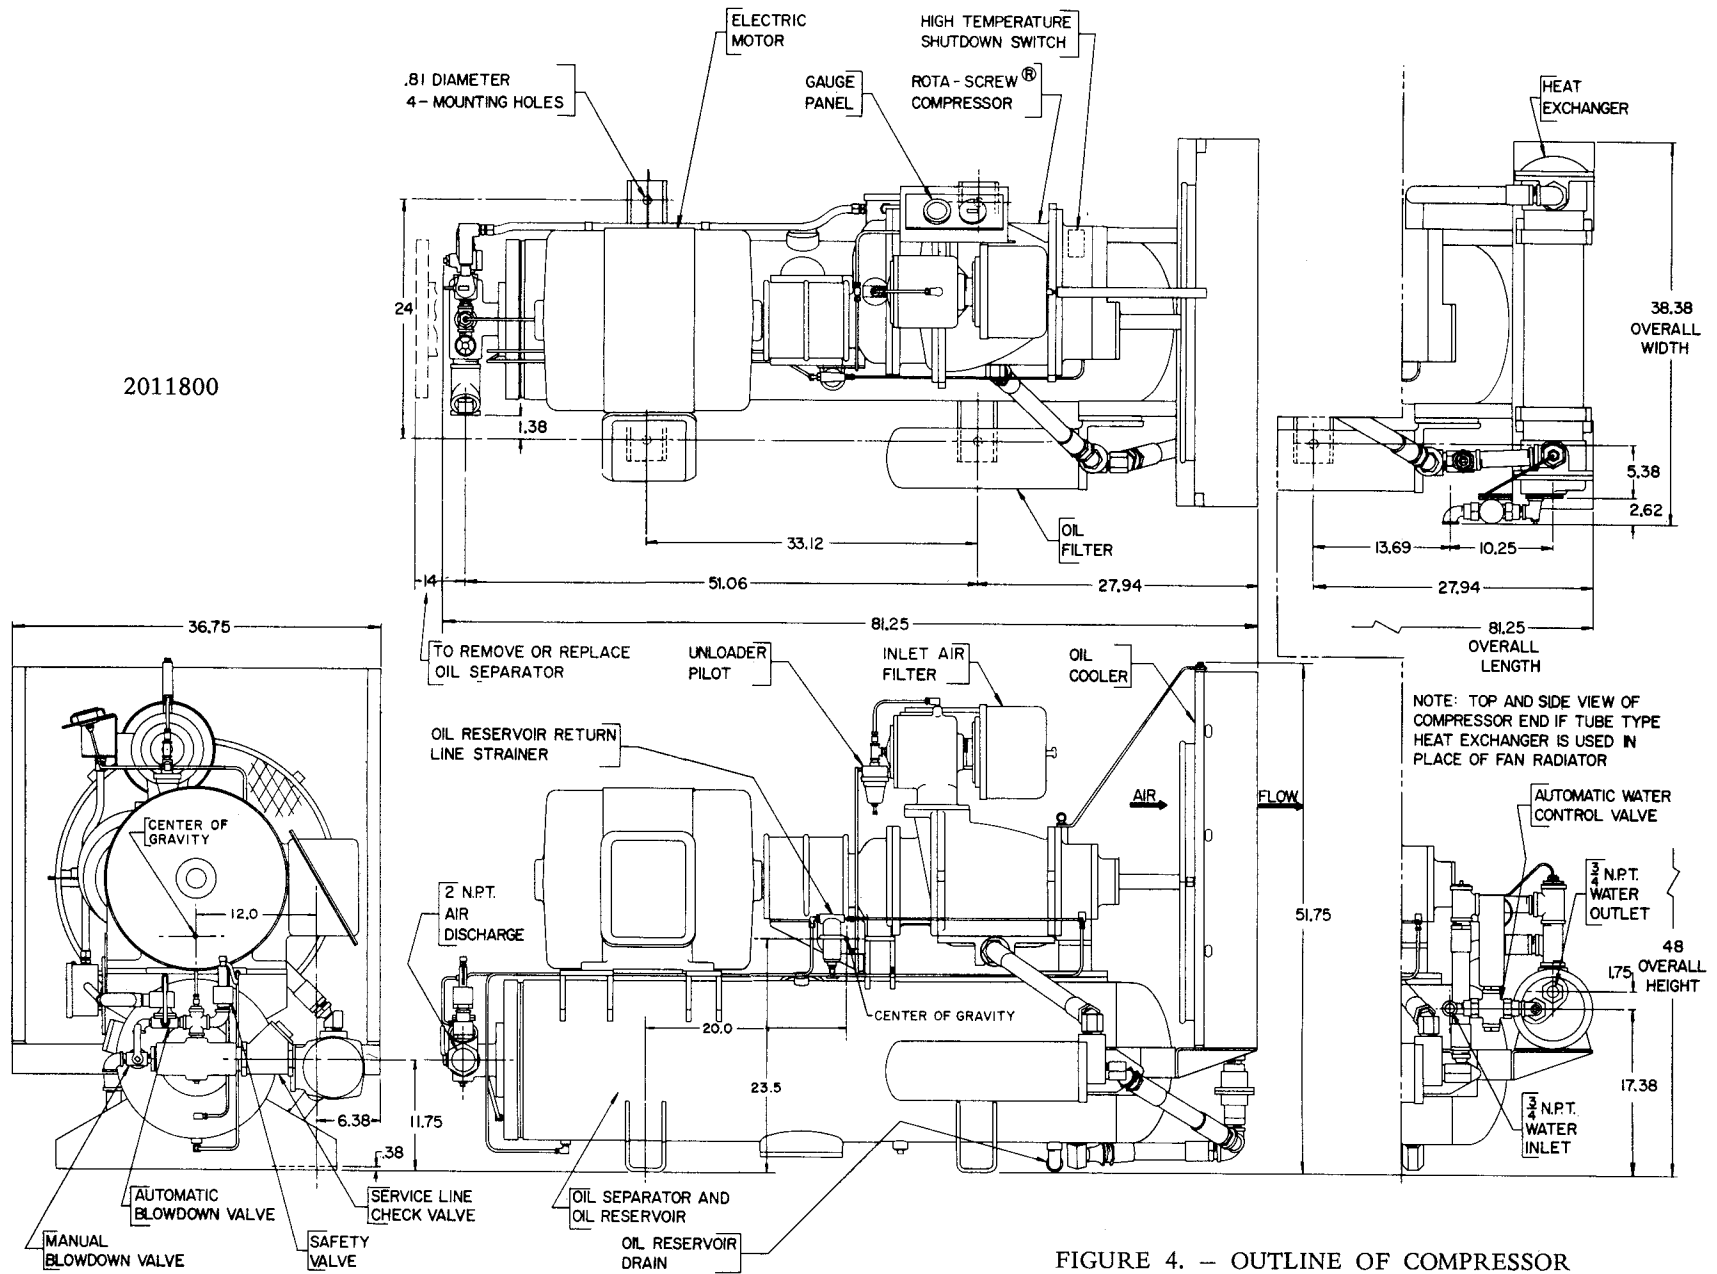

FIGURE 4. - OUTLINE OF COMPRESSOR
**AIR COOLED UNIT** (Figure 1) – If unit is to operate in an enclosure, provide the enclosure with adequate inlet and outlet for cooling air. Proper ventilation must be provided for adequate cooling; hot air must be exhausted from the enclosure. Do not block air flow through cooler. Allow two feet from cooler face to nearest obstruction. Refer to Figure 4 for direction of air flow through cooler.
Mounting bolts are not normally required, however, installation conditions such as piping rigidity, angle of tilt, or danger of shifting from outside vibration or moving vehicles may require the use of mounting bolts to the foundation. Coupling alignment must be checked after installation. Refer to Figure 4 for outline dimensions.
**AUTOMATIC BLOWDOWN VALVE** (Figure 4) – A solenoid valve, piped to the compressor discharge manifold ahead of the check valve and wired into the electrical system, will blow down the compressor air system on motor shutdown. See control bulletin for wiring diagram.
**CHECK VALVE** (Service Line) (Figure 4) – A renewable seat swing type check valve on the discharge manifold prevents back flow of air into compressor air system from the shop line when unit stops under automatic control or is shut down.
**Safety Valve** (Figure 4), installed on the discharge manifold, is set at the factory to the proper pressure for protection against overpressure of the oil reservoir. Periodic checks should be made to insure its proper operation. Never operate the unit without proper safety valve setting.
**AIR FILTER** (Figures 4 & 9) is dry type. Air filters must receive proper maintenance if maximum service is to be obtained from unit. Establishing adequate and timely filter service is MOST IMPORTANT. When outside surface of the element appears to be evenly coated with dirt, it should be cleaned as follows: